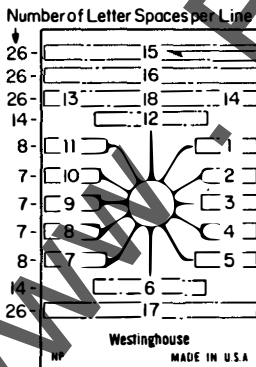

Figure 1
- NP 502A054H01 (Fixed Handle) Fig. 1